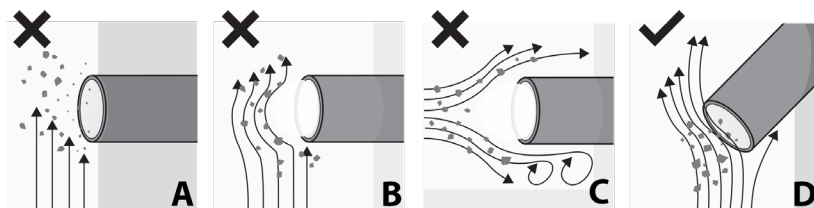

Figure 2. Implementation of an EasyViewer instrument:
- Probe location and orientation as shown in Figure 2.